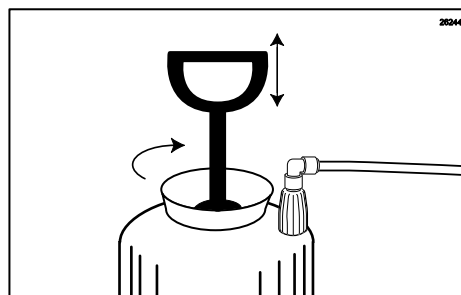

Figure 82
- Reinstall the hand pump and tighten sufficiently. Using the handle, pump air into the Sanitizer Tank to prime the pump (approximately 10 strokes.) (See Figure 82.)